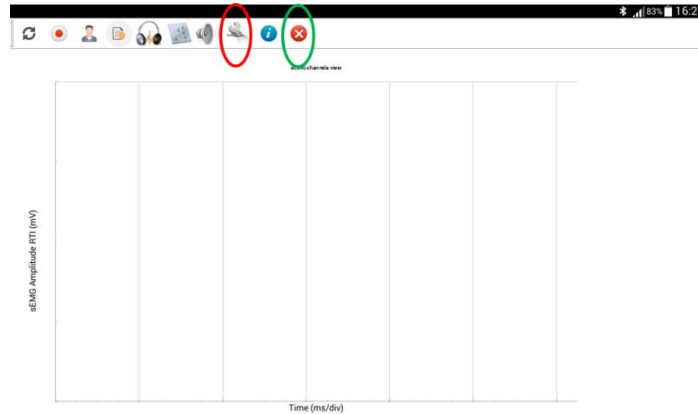

FIG. 8.6: DuePro App, connection options (red circle) and end acquisition (green circle).
- Press the "connection options" button (Figure 8.6, red circle).
- For each probe used, enter the name as shown in Figure 8.7 (blue circle). Press the Save button (Figure 8.7, green circle) and close the program (Figure 8.6, green circle);